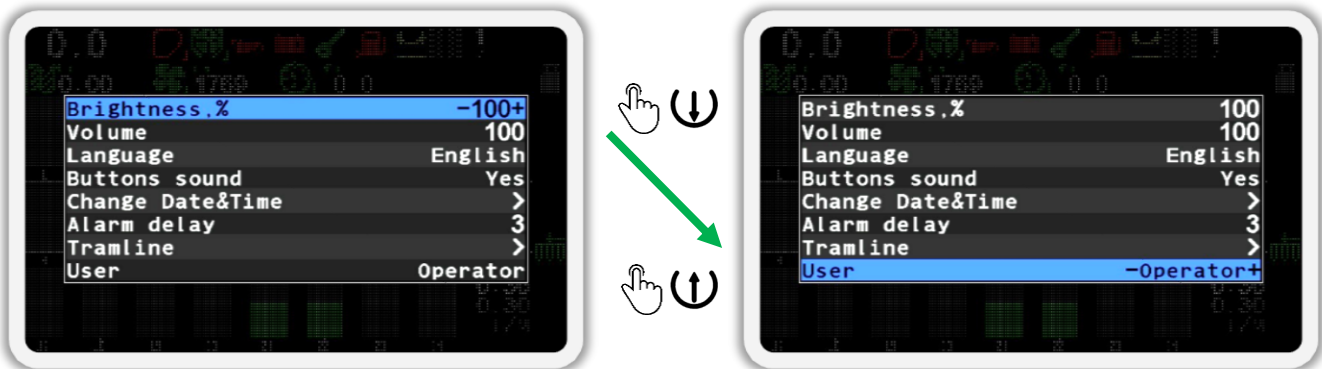

Figure 44
2. Press the  “Menu” button again. As a result, the “Settings” menu will be displayed (see Figure 44). In this menu, select an  “User” item. To do this, use the  “Up” or  “Down” buttons (hereafter use these buttons to move from one menu item to another).